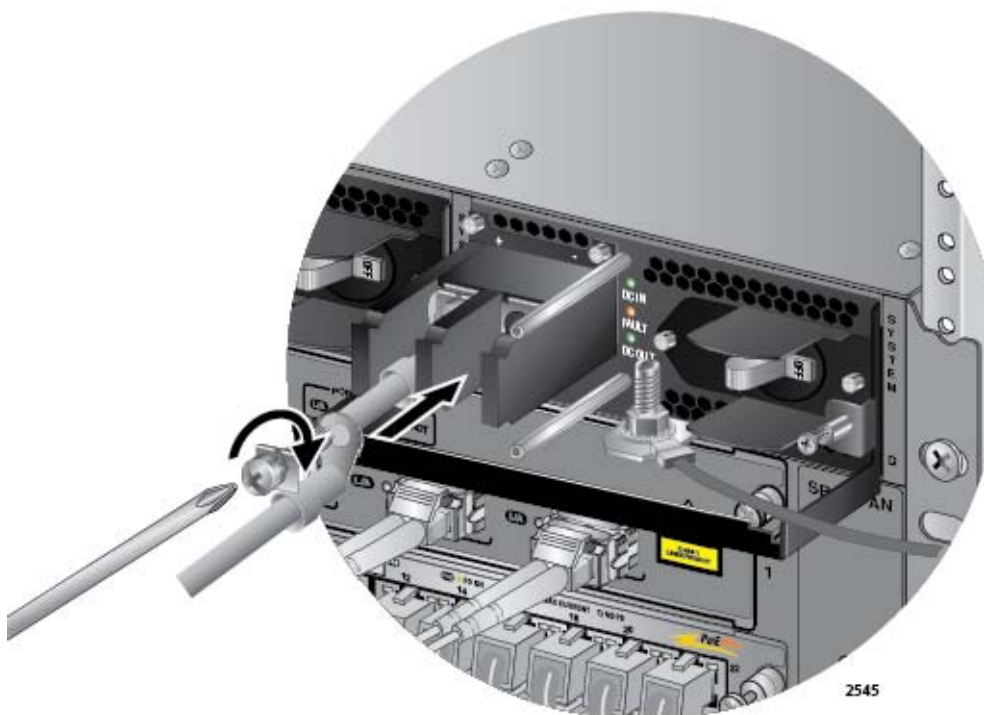

Figure 139. Connecting the Negative (-) Power Wire with a Right Angle Terminal
7. With a #3 Phillips-head screwdriver, connect the negative (-) power lead wire to the negative terminal on the power supply, with the remaining terminal screw removed in step 5. The negative terminal is on the right. Refer to Figure 139 on page 200.